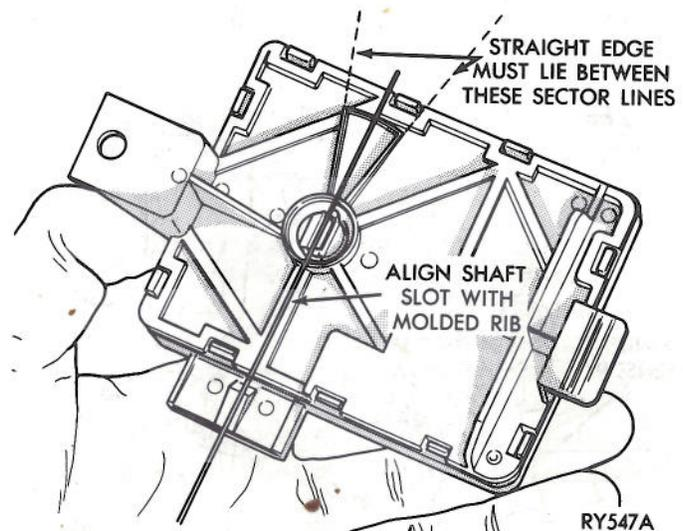

Fig. 7—Servomotor Shaft Alignment for Installation
Electronic Servomotor—Install (Fig. 7)
- (1) Before installing motor, make sure that the shaft is properly positioned by checking alignment of shaft flats as shown in Fig. 7. A straight edge held against the shaft flat side should lie within the molded sector lines so the motor can be installed. If necessary, move the motor shaft to proper position using procedure described under "Servomotor Testing."
- (2) Align the key on the end of the blend-air door shaft with the slot in the motor shaft. Gently, press down on the servomotor until both motor housing legs touch the Heater-A/C unit cover. The two shafts should engage without need for excessive force.